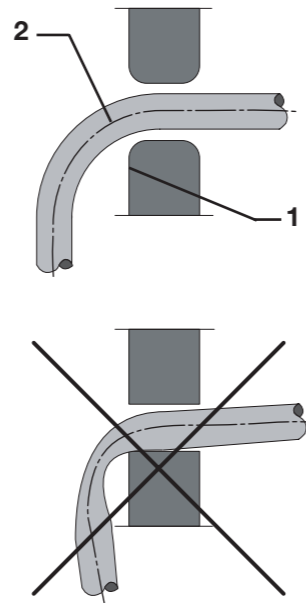

Figure 14: Fitting of hydraulic hoses
8.5 Hydraulic hoses and couplings (Fig. 14)